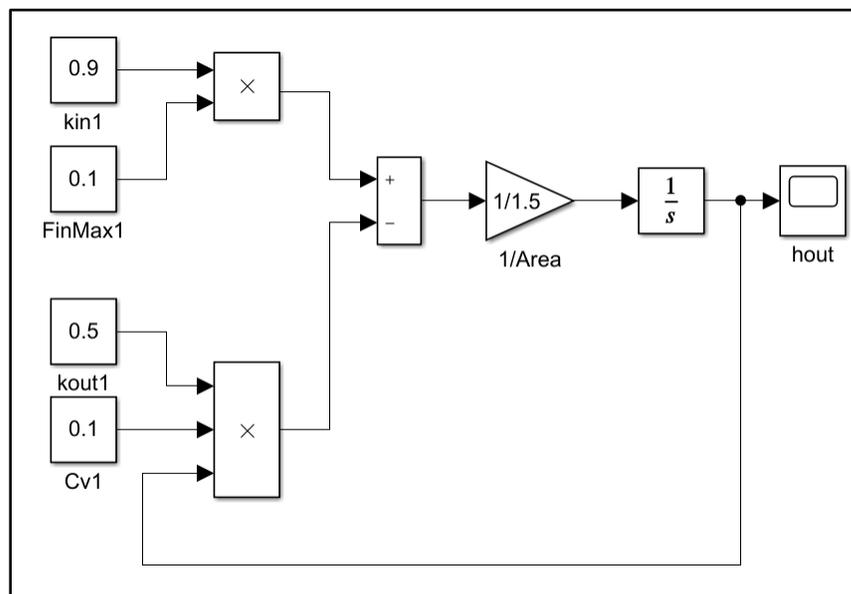

Figure 5. Renaming, revaluing and connecting the blocks.
- Set constant values: $kin1=0.9$, $FinMax1=0.1$, $kout1=0.5$ and $Cv1=0.1$. This is done by double-clicking on the the respective icons, then change the values in the “Constant value” entry in the properties window that pop-up. (Remember to click “OK” or hit [Enter] key to apply the changes.). Further, let the area for tank1 be $A_1 = 1.5$, then double-click on the gain and enter “ $1/1.5$ ” (You can expand the “gain” icon if you wish to see the value/formula). (See Figure 5).